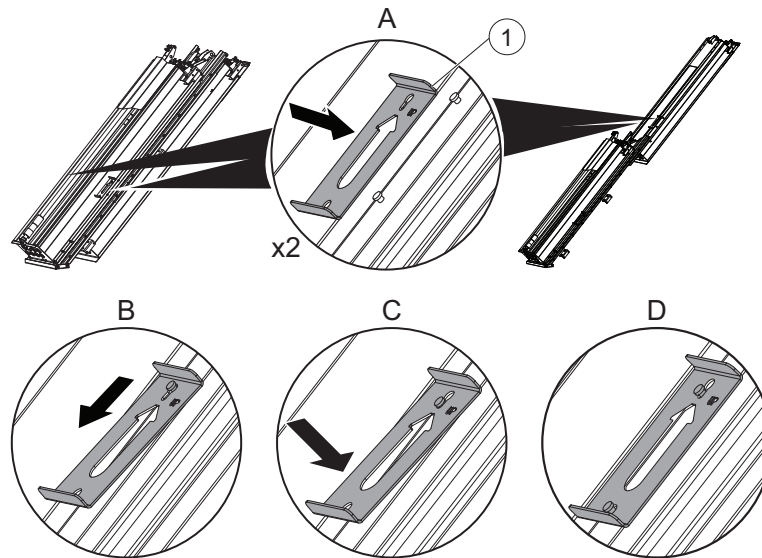

Figure 22 Locking Plate
- To lift a UV Bank down, remove the Bank Locking Plates (Figure 22).
3. Install the Bank Locking Plate on the Lifted UV Bank (Figure 22).